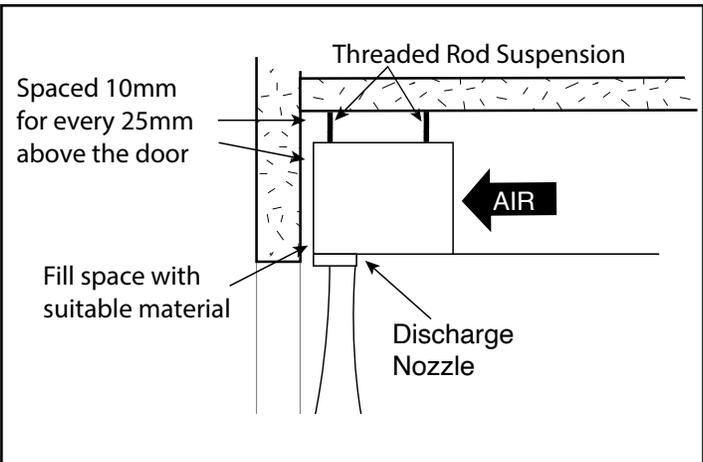

Figure 2
- H. For optimum performance, the bottom of the unit (discharge nozzle) should be no more than 25mm above the top of the door opening with the unit mounted flush to the wall. If the unit must be mounted higher, it must be **spaced out** from the wall **10mm for every 25mm** the unit is above the door opening. **See Figure 2.**